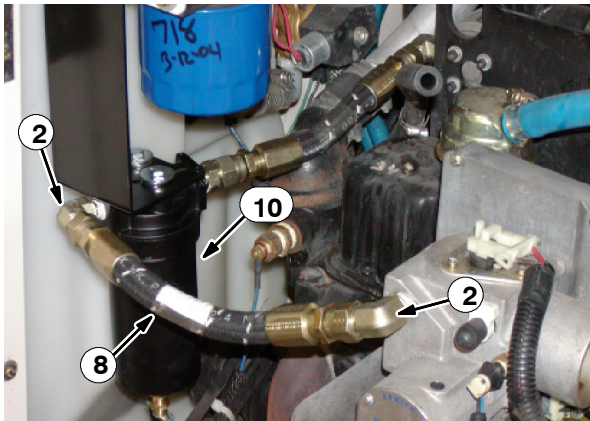
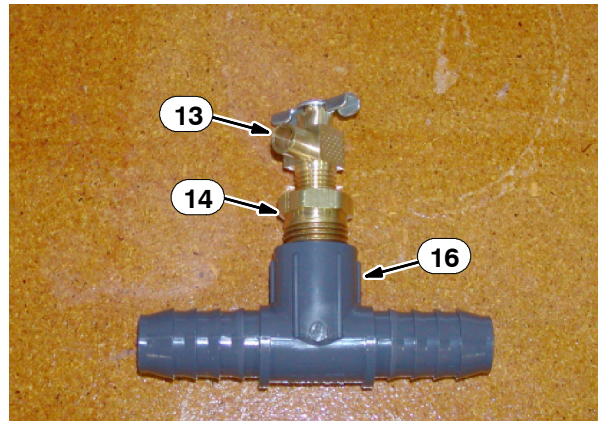

FIG. 17
FIG. 18
38. Loosely thread one end of the 10.5" LPG hose (8) onto the 90° hydraulic fitting (2) already installed onto the LPG fuel filter (10). Refer to Fig. 17.
39. Loosely thread the other end of the 10.5" LPG hose (8) onto the 90° hydraulic fitting (2) already installed on the LPG throttle housing assembly. Refer to Fig. 17.
40. Tighten the 8.5" LPG hose (1) and the 10.5" LPG hose (8) onto the respective fittings.
41. Install the brass straight fitting (14) and the draincock fitting (13) into the plastic tee fitting (16). Refer to Fig. 18.